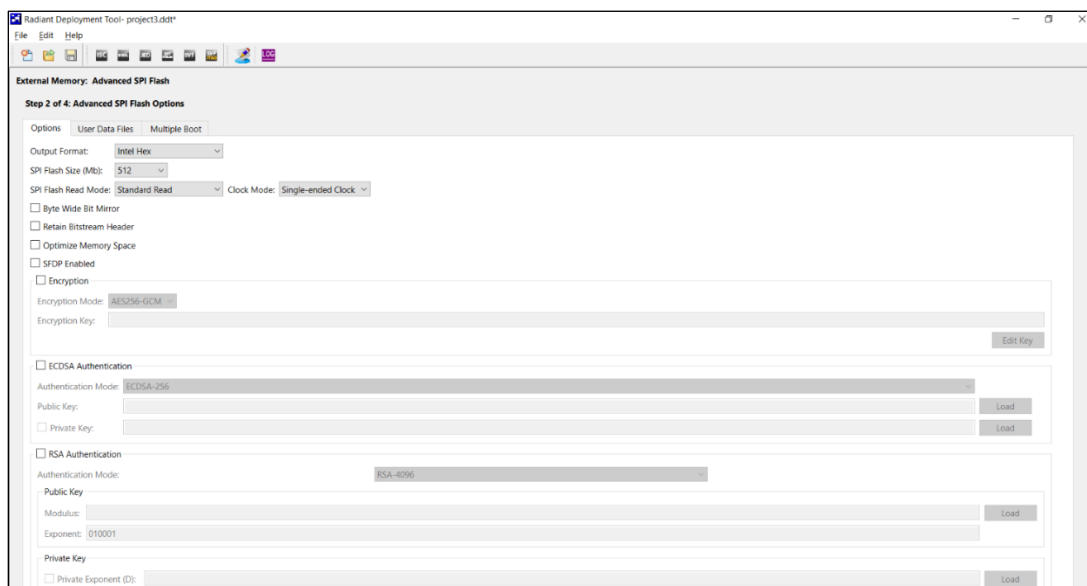

Figure 7.16. Advanced SPI Flash Options Window – Options Tab
- Edit the following options in the **Options** tab (Figure 7.16):